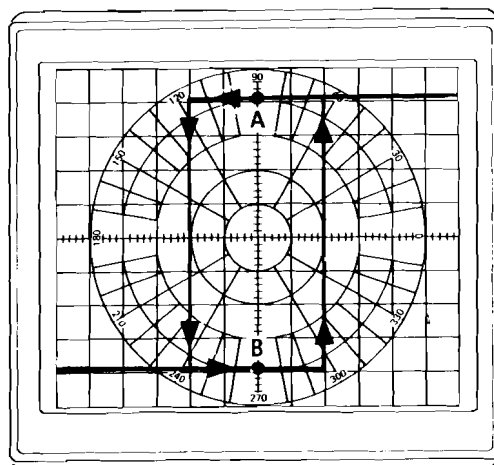

Figure A5-33. Hysteresis Loop Waveform
- p. Set A2 Frequency Control SCAN TIME SEC switch to MANUAL. Rotate MANUAL sweep control slowly clockwise and note point at which a negative to positive transition occurs as in Figure A5-33. Then rotate MANUAL sweep control slowly counterclockwise and note point at which a positive to negative transition occurs. Adjust $\pm \Delta F$ FREQUENCY sweep width until the hysteresis loop is at least four divisions wide as shown in Figure A5-33.
- q. Set CRT trace dot to the right-hand edge of the CRT with the MANUAL sweep control, then bring the dot back to a point half-way between transitions (Point A on Figure A5-33).
- s. Set CRT trace dot to the left-hand edge of the CRT with the MANUAL sweep control, then bring the dot back to a point half-way between transitions (Point B on Figure A5-33). DVM should indicate $-900 \text{ mV} \pm 1 \text{ mV}$. If not, adjust "SCL" control A3A12R50 for $-900 \text{ mV} \pm 1 \text{ mV}$.